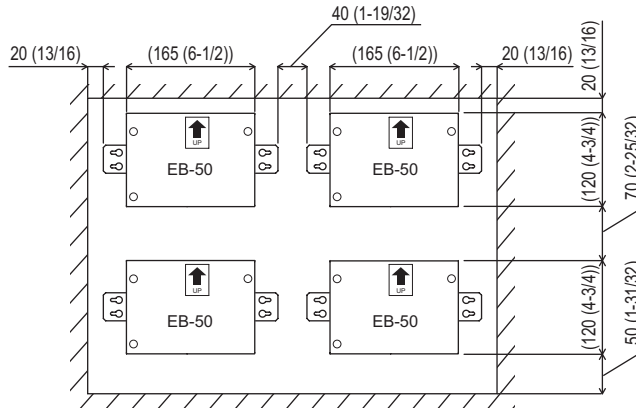
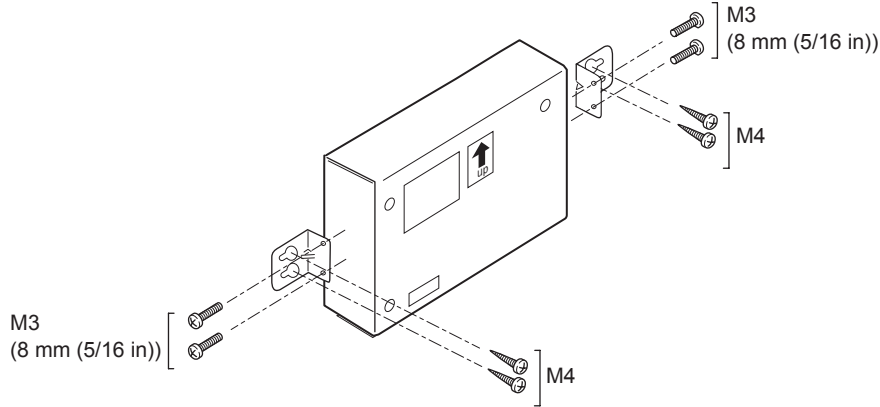

Fig. 5-1 When using L-fittings
Fig. 5-3
2. Attach the supplied two L-fittings to the EB-50 with the supplied M3 screws. (Fig. 5-3)
3. Properly install the EB-50 with the M4 screws (field-supplied) horizontally inside the metal control box (Fig. 5-3), taking into consideration the installation space (Fig. 5-1).